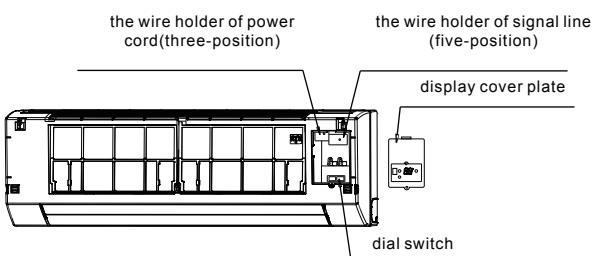

Fig.7-2
- Individual connect the power cord and signal line,adjust the dial switch.(Refer to Fig 7-2)